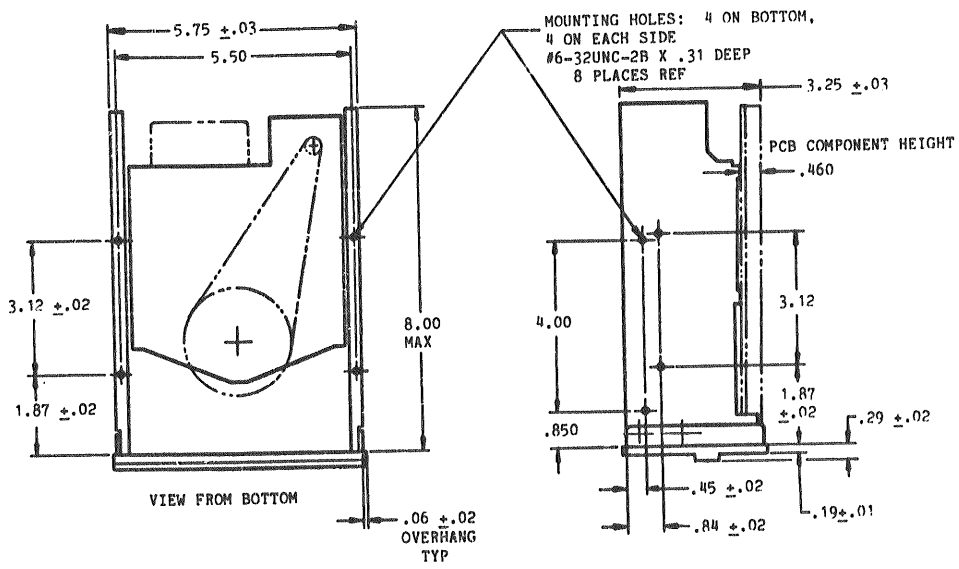

Figure 2-1. Drive Mounting Details
Refer to Figure 2-1 for details, and ensure that the following mounting requirements are met:
- d. There are several mounting options (see Figure 2-1):